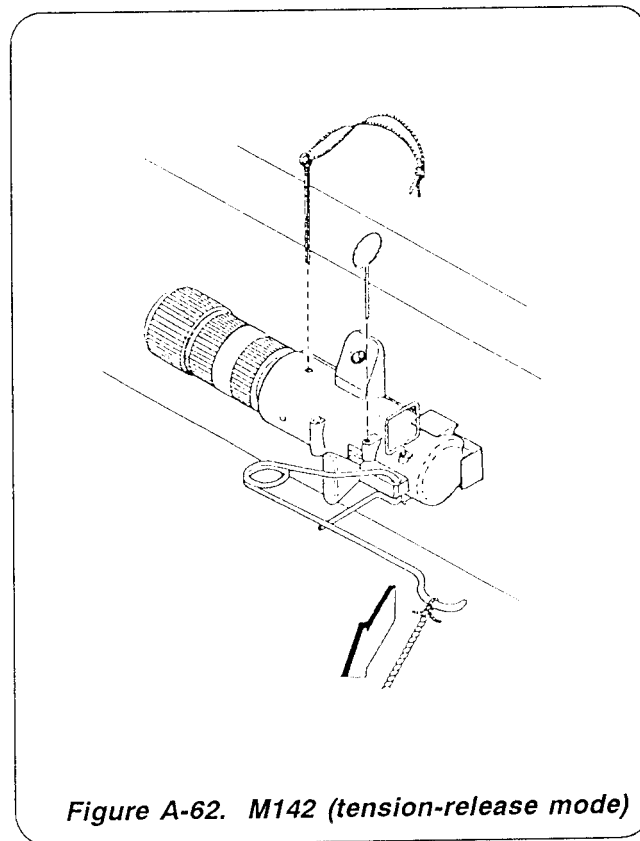

Figure A-62. M142 (tension-release mode)
- Tension-release (Figure A-62).